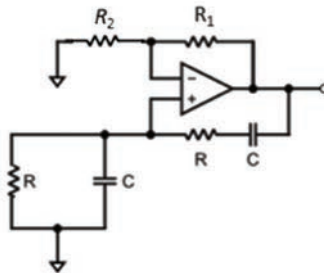

Figure 10.17 Ch 10: No. 23, self-test
23. For the Wien bridge oscillator of Figure 10.17, determine the value of capacitance C and resistance R_2 , if resistance R is $40\text{ k}\Omega$, R_1 is $100\text{ k}\Omega$, and the oscillation frequency is $4,000\text{ Hz}$.